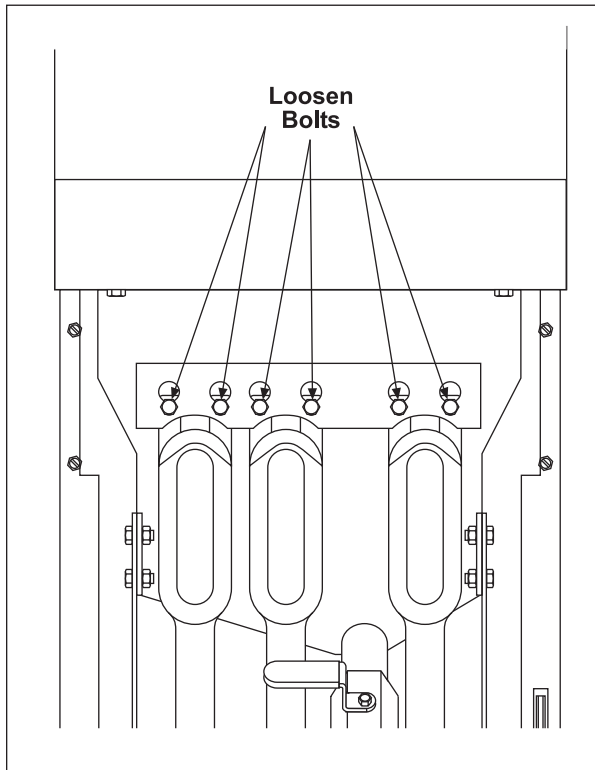

Figure 3
2. Loosen the two mounting bolts at the top of each burner (Figure 3).